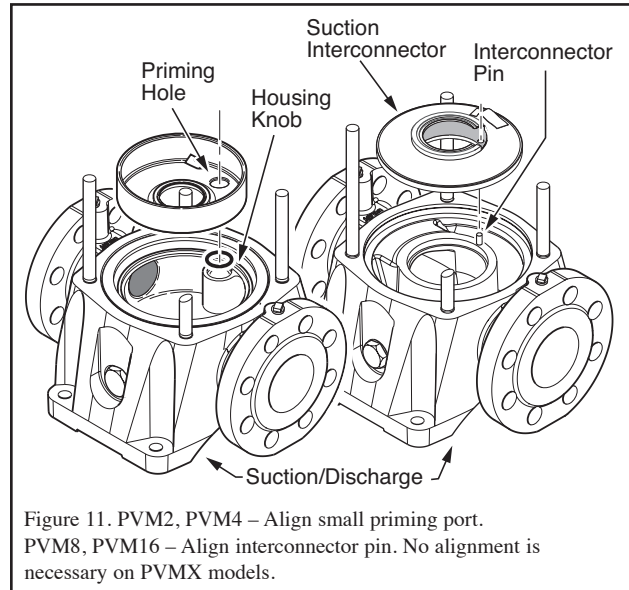

Figure 11. PVM2, PVM4 – Align small priming port. PVM8, PVM16 – Align interconnector pin. No alignment is necessary on PVMX models.
6. Remove and replace round spring ring (PVM2 and PVM4) or stack spring (PVM8 and PVM16) (13).
7. Pull the old stack (16A through 16L) out of the stainless steel sleeve (18) by pulling straight up on the pump shaft (16A).
8. Remove the stainless steel sleeve (18).
9. Remove and discard the bottom sleeve gasket (17).
NOTICE: Be sure to align either the small priming hole or the suction interconnector pin hole (located on the bottom stage of the stack) properly in the base of the Suction/Discharge (21). See Figure 11 (not necessary on PVMX models).
15. Use a rubber mallet to tap the stainless steel sleeve (18) into place.
17. Install a new upper sleeve gasket (17).
18. Install a new round spring ring or stack spring (13).
19. Reinstall the motor bracket (7) on the pump body. Align the priming plug (6) to its original position.
20. Oil the threads on the staybolts (19).
22. Reinstall the motor (1) on the motor bracket (7) and turn the motor to the desired terminal box position.